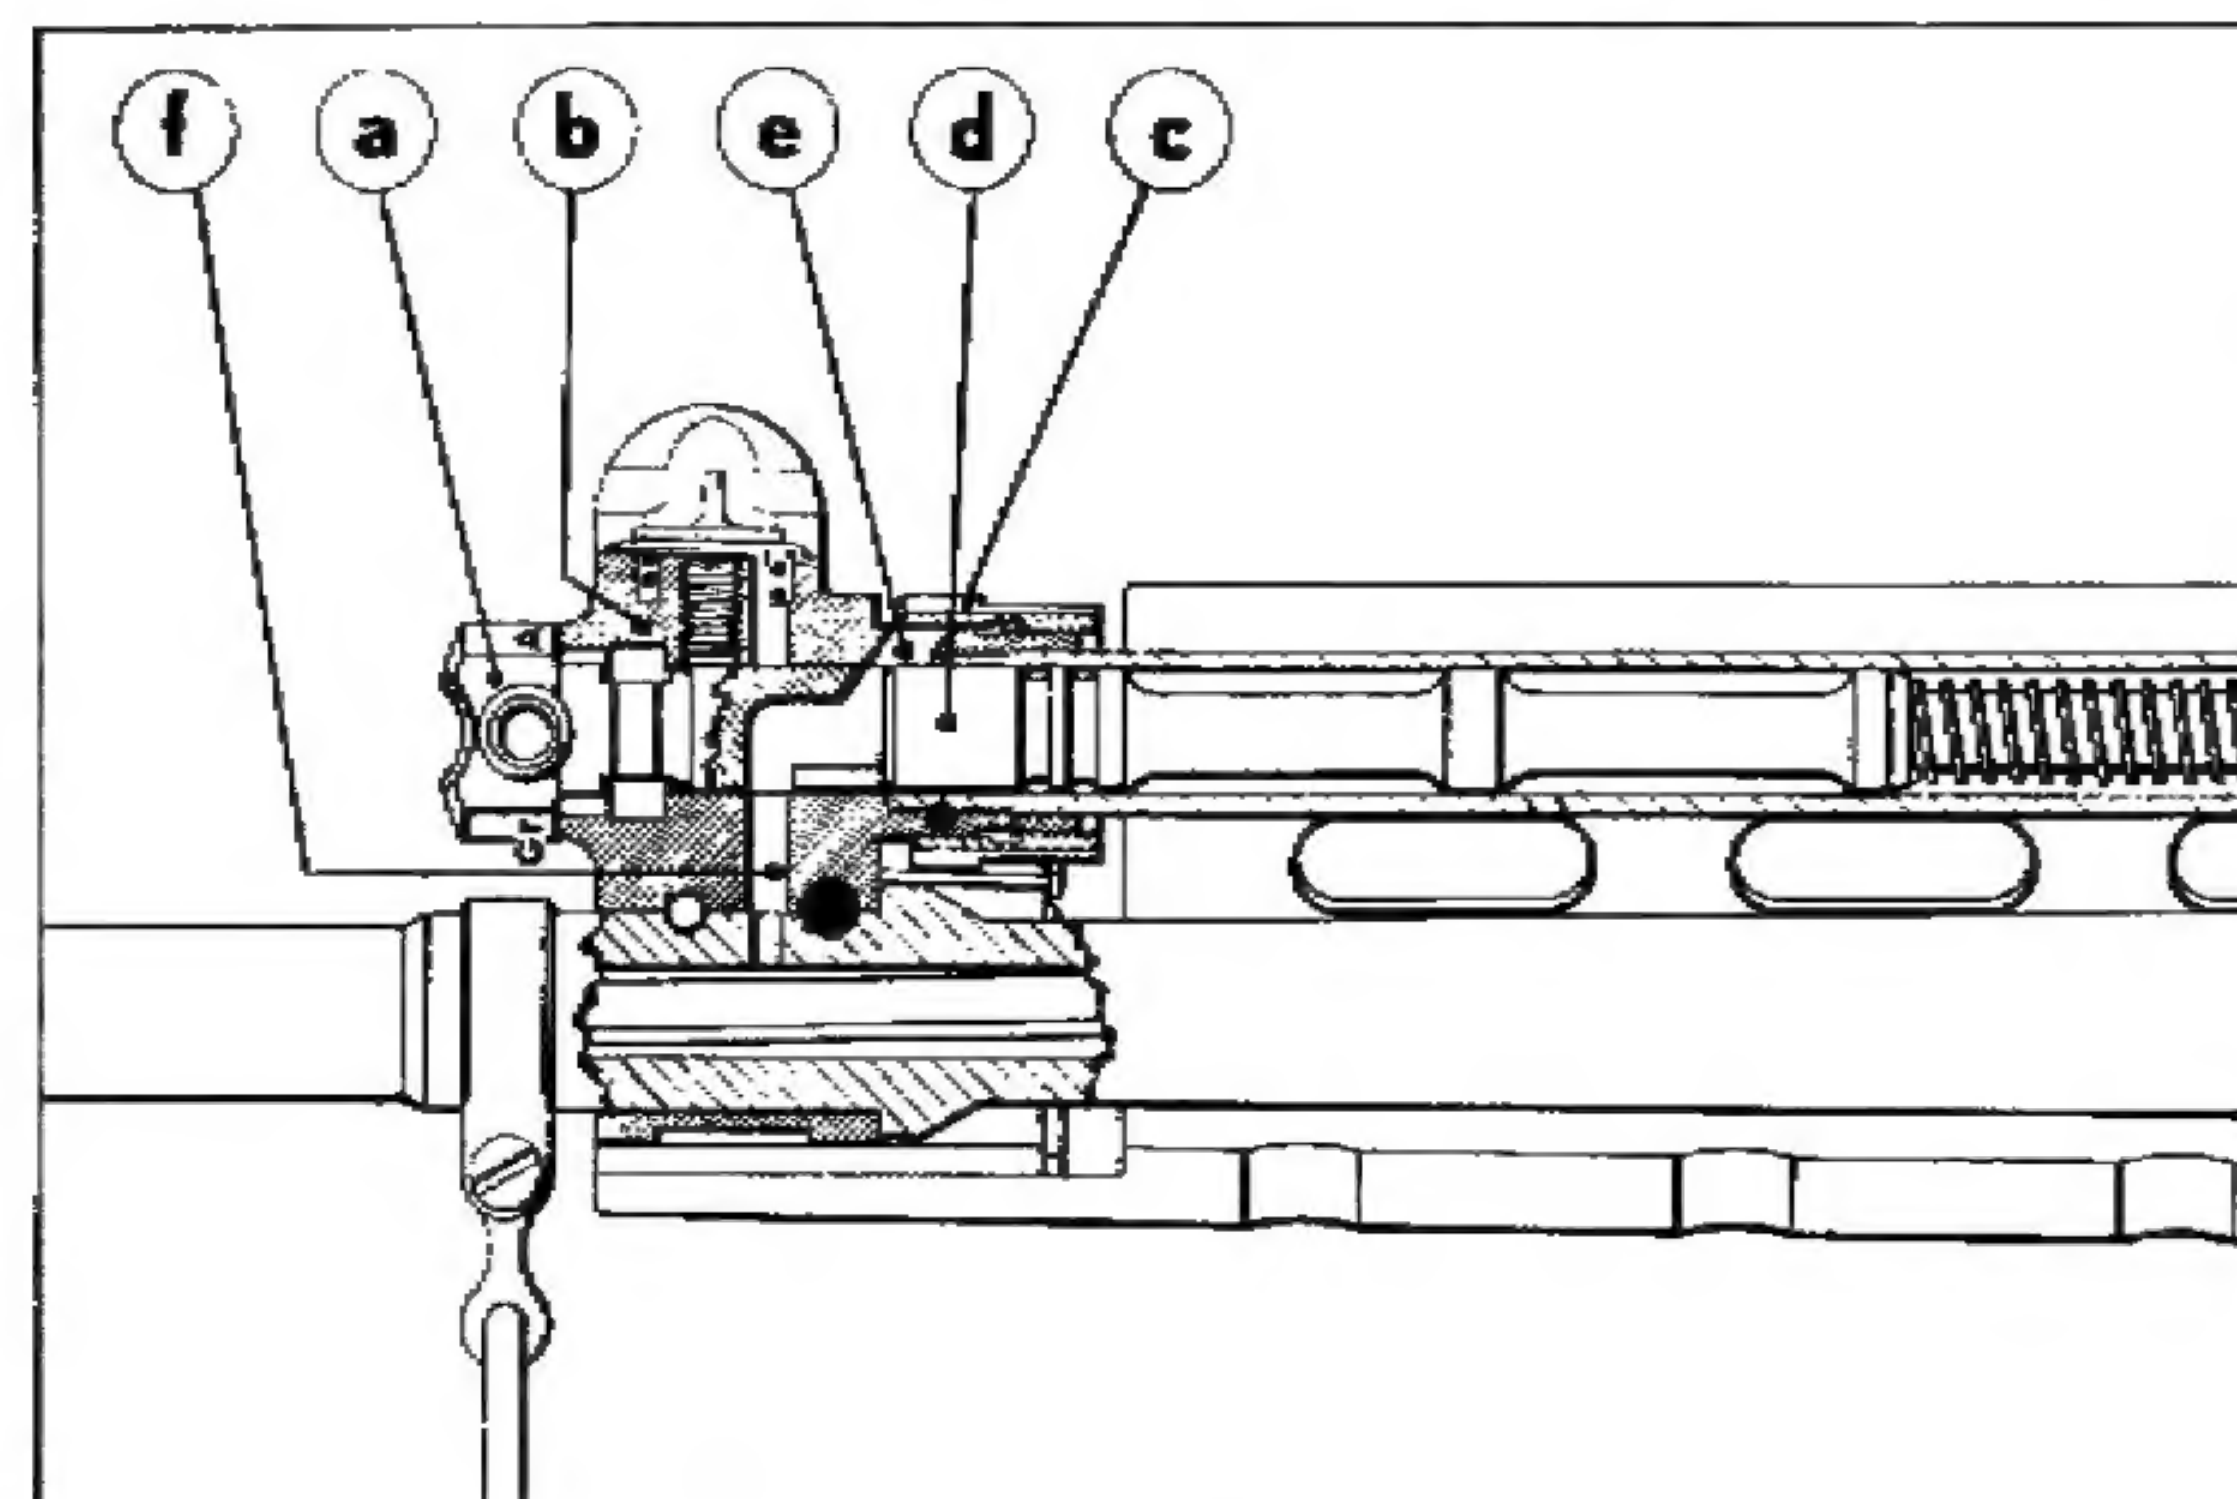

Fig. 4
- The bullet moves along the barrel and reaches the level of the gas port (f) (fig. 4).